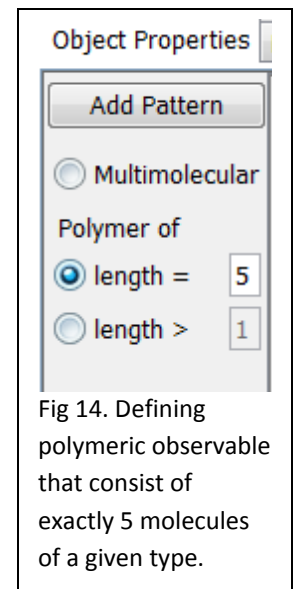

Fig 14. Defining polymeric observable that consist of exactly 5 molecules of a given type.
- Observables can be specified as multimolecular complexes as in Figs 5 & 6. Observables that count species comprising of multiple identical molecules are defined as polymers (Fig. 14).